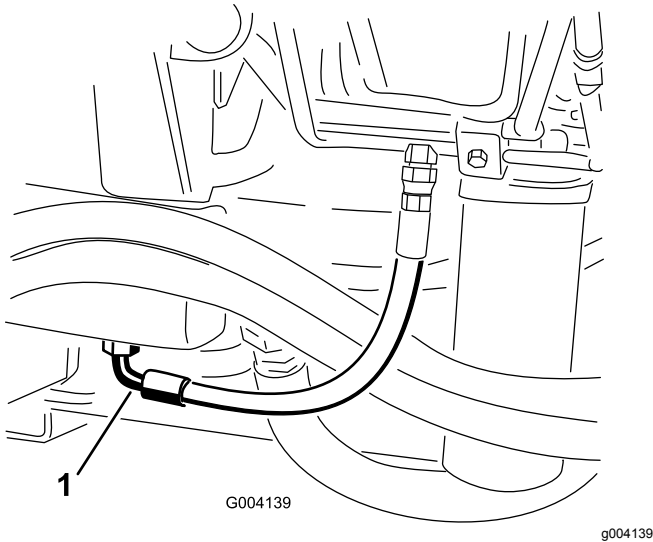

Figure 76
2. Place a large drain pan under the fitting secured to the bottom of the hydraulic-fluid reservoir (Figure 76).